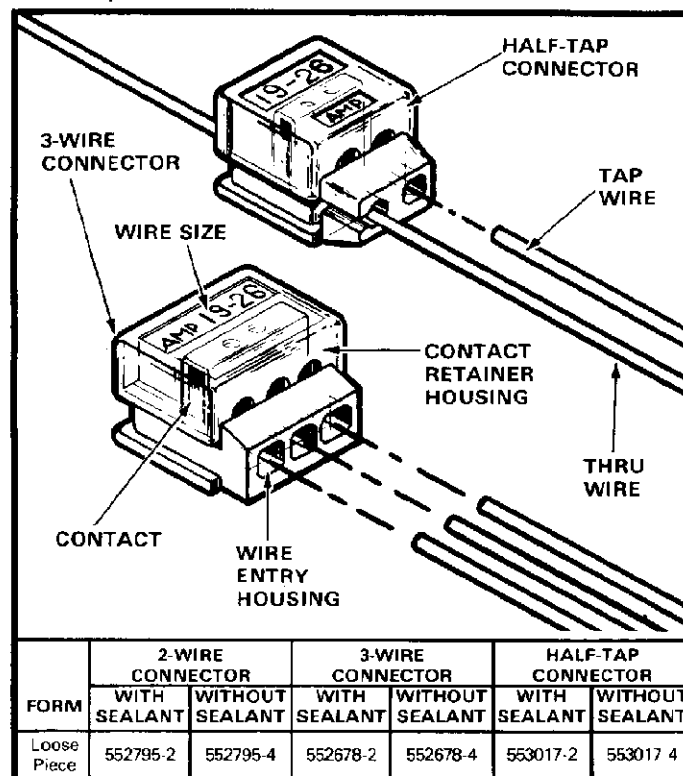

Fig. 2
This instruction sheet (IS) covers the AMP Hand Terminating Tool 552724-1 which is designed to terminate the AMP Tel-Splice loose-piece connectors listed in Figure 2.
Determine whether you are going to terminate two or three wires, or a half-tap application, and whether the application requires a sealed or unsealed connector. Refer to the chart in Figure 2 and select the proper connector. Select wire within the specified size and proceed as follows: